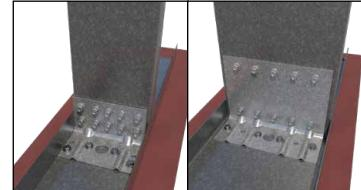

Figure 2 #12-24 screws
- A “#” in the shear column indicates that the shear capacity is limited to 963 lbs for D683 and T683 clips, 1374 lbs for D973 and T973 clips, and 1816 lbs for D685, D975, T685, and T975 clips when using #12-24 self-tapping screws to 3/16" A36 steel as shown in Figure 2.